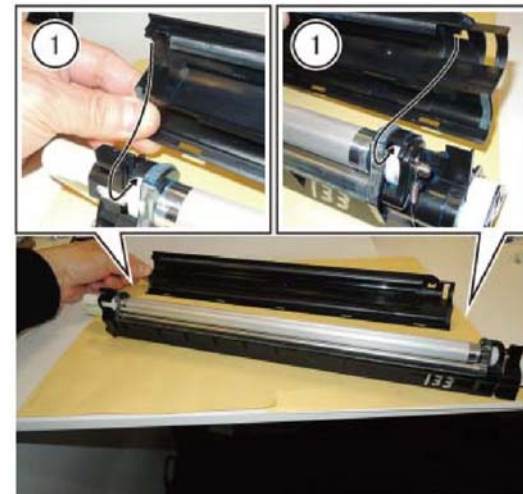

Figure 8 Upper SUB cover assembly
14. Install the upper SUB cover assembly, Figure 8.
- a. Insert the two hooks (1) of the upper SUB cover assembly into the lower part of the lower sub COH housing assembly.